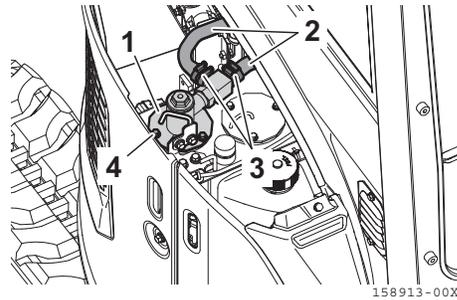

Fig. 8-51
1. Open the front cover (right), and clean the hydraulic oil tank cover (**Fig. 8-51, 1**) and its surrounding area with a waste cloth or other.
2. Loosen the hose bands (**Fig. 8-51, 3**) fixing the return hoses (**Fig. 8-51, 2**), and disconnect the return hoses (**Fig. 8-51, 2**).
3. Slowly and evenly loosen the 3 bolts (**Fig. 8-51, 4**) on the hydraulic oil tank cap, release the internal pressure, and then remove the cover (**Fig. 8-51, 1**) and hydraulic oil return filter together.
6. Wipe the cap mount on the hydraulic oil tank with a waste cloth and check the O-ring. If the O-ring is damaged, replace it with a new one and then reinstall the cover (**Fig. 8-51, 1**).
7. Reinstall the return hoses (**Fig. 8-51, 2**), and tighten the hose bands (**Fig. 8-51, 3**).